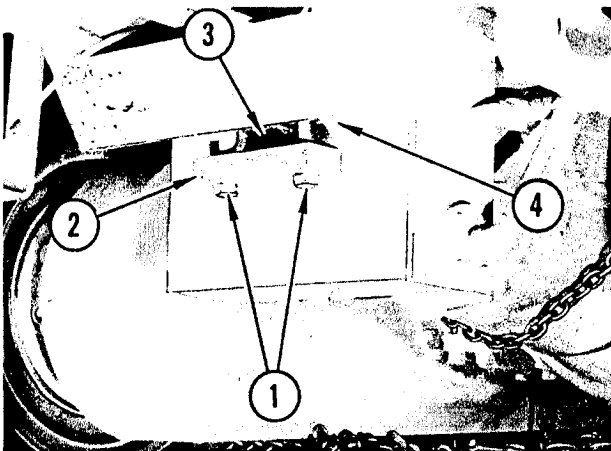

FIGURE 116. TRANSMISSION FRONT SUPPORT
3. Tighten front transmission support bolts (1), Figure 116, until support